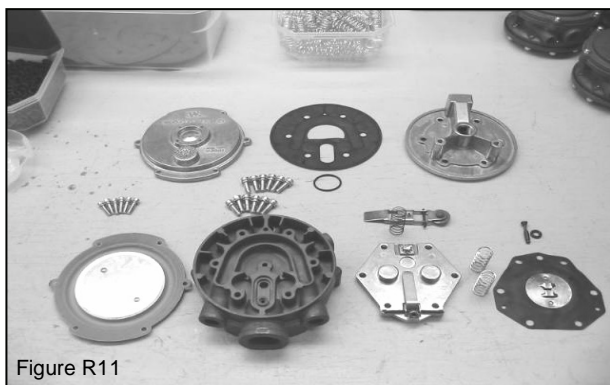

Figure R11
5. Make sure all parts (Figure R11) are completely dry before re-assembly.